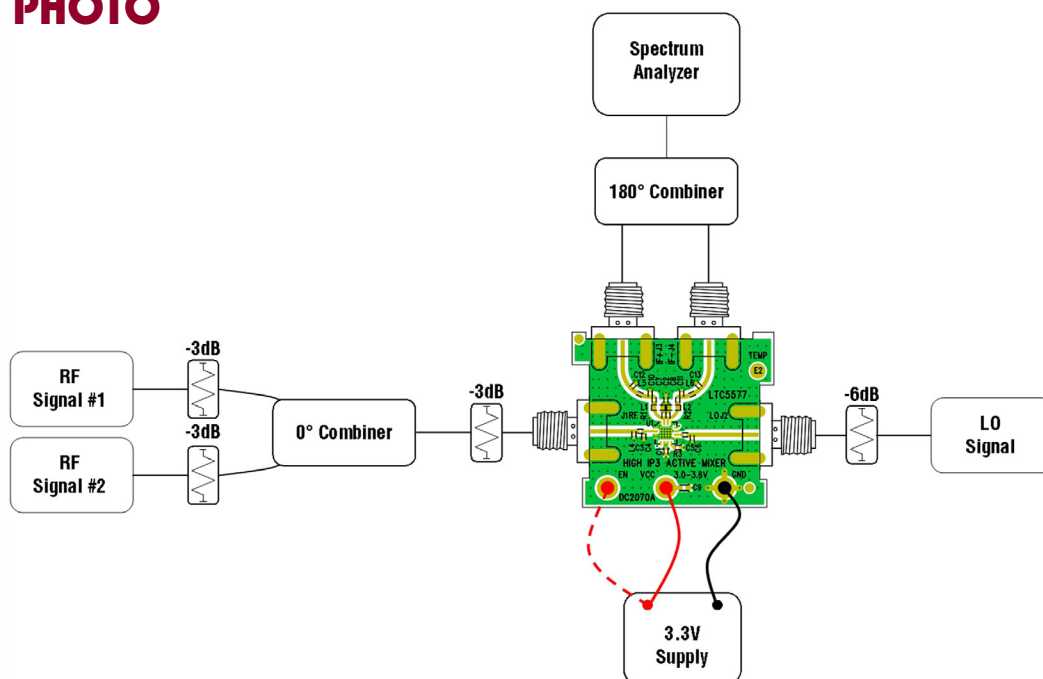

Figure 1. Test Setup for Mixer 2-Tone Measurements
- High quality combiners should be used to present a broadband 50 $\Omega$  termination on all ports as well as provide good port-to-port isolation. Attenuator pads should be used on the inputs to the combiner and the RF input port of the LTC5577 mixer, as shown in Figure 1. Adding attenuator pads further improves source isolation and helps prevent the signal generators from producing intermodulation products.
2. Connect all test equipment and the power supply as shown in Figure 1.